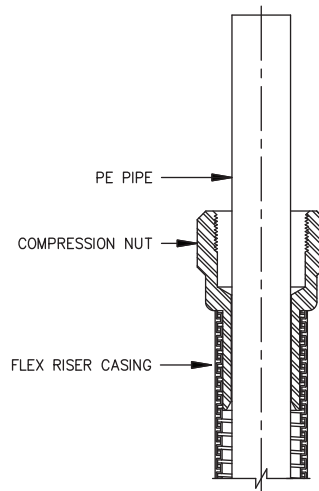

FIG. 2
4. INSTALL COMPRESSION NUT ONTO THE FLEX RISER CASING, HAND TIGHT (FIG 2).